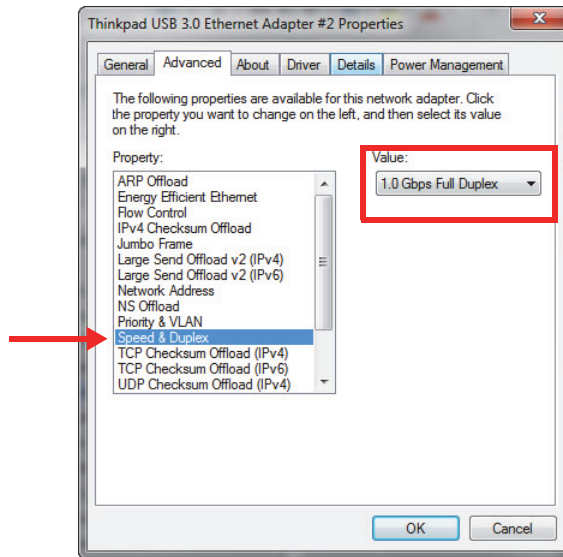

Figure 1-9 Speed & Duplex property
6. On the **Advanced** tab, select **Speed & Duplex**, and then select **1.0 Gbps Full Duplex** (Figure 1-9 on page 30).